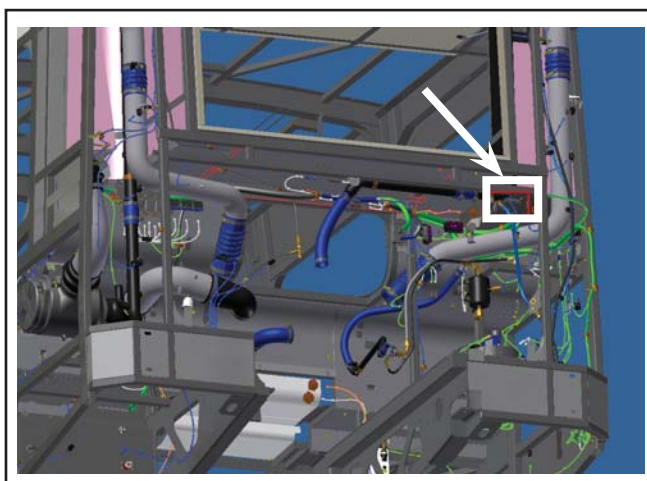

Figure 11 - Location of the +IB-X6199A Connector on the Engine Control Module
- 1.19. Locate the +IB-X6199A connector in the engine compartment. See Figure 11.